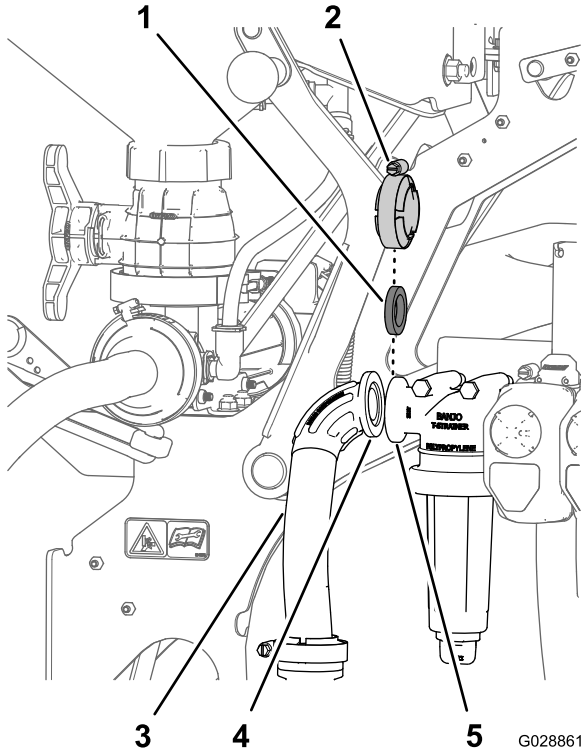

Figure 28
1. Align the flange of the 90° fitting of the inlet hose with the flange of the pressure filter head (Figure 28).
2. Secure the inlet hose to the pressure filter head with the gasket and flanged clamp (Figure 28) that you removed in 1 of Preparing to Install the Eductor Valve (page 11).